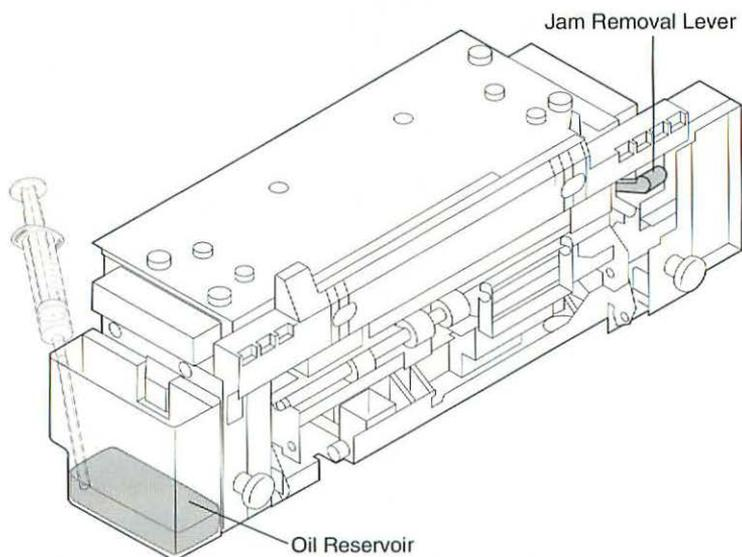

Figure 15. Fuser Oil Extraction from the Oil Reservoir
3. Pump the jam removal lever (Figure 15) fifty times to pump the oil already in the system back into the reservoir.
4. Place the tip of the syringe into the oil at the bottom of the reservoir and draw the oil into the syringe (Figure 15). Inject the oil into the reservoir of the replacement fuser assembly. Repeat this step until there is no residual oil left in the bottom of the reservoir. Stopper the reservoir on the old assembly with the sealing block that is provided.